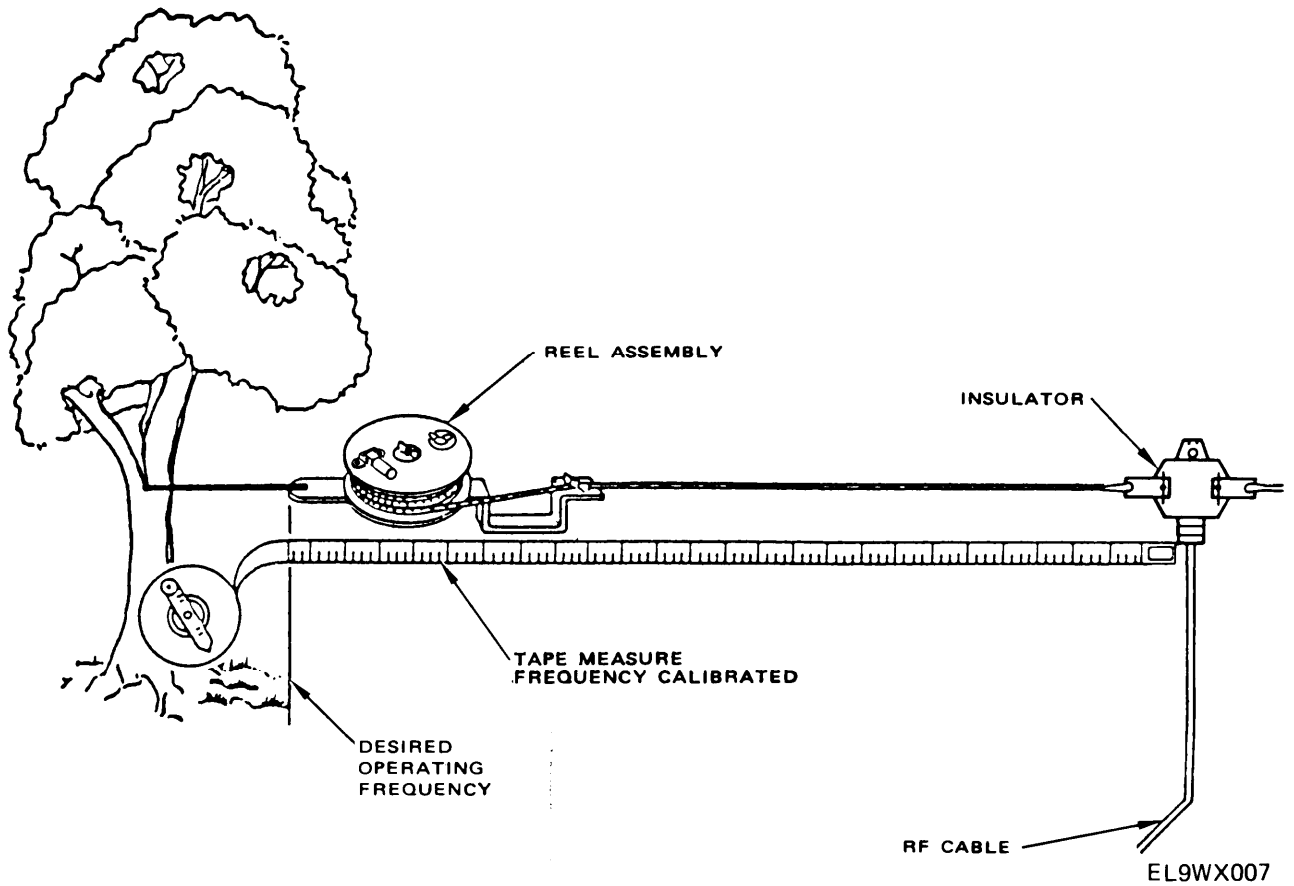

Figure 2-5. Use of Tape Measure to Determine Antenna Wire Length
- (f) Unroll an equal amount of wire, of the length determined in the previous step, from each reel assembly as follows (fig. 2-5):